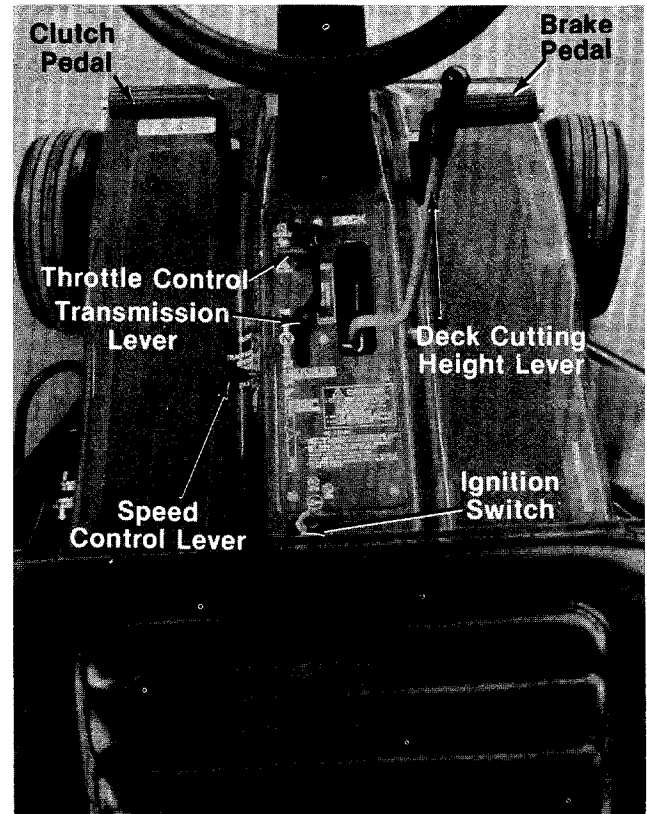

FIGURE 19. CONTROLS
CONTROLS (See Figure 19)
The throttle control is used to regulate the engine speed and to activate the choke on the engine. To get maximum efficiency from cutting, the throttle should be in the "FAST" position when operating the mower. Pushing the throttle all the way forward past "FAST" will choke the engine. See figure 19.
The ignition switch is located on the console. Remove the key when the mower is not in use. See figure 19.
6. Turn the ignition key to the "START" position. When the engine is running, let the key return to the "ON" position. See figure 19.